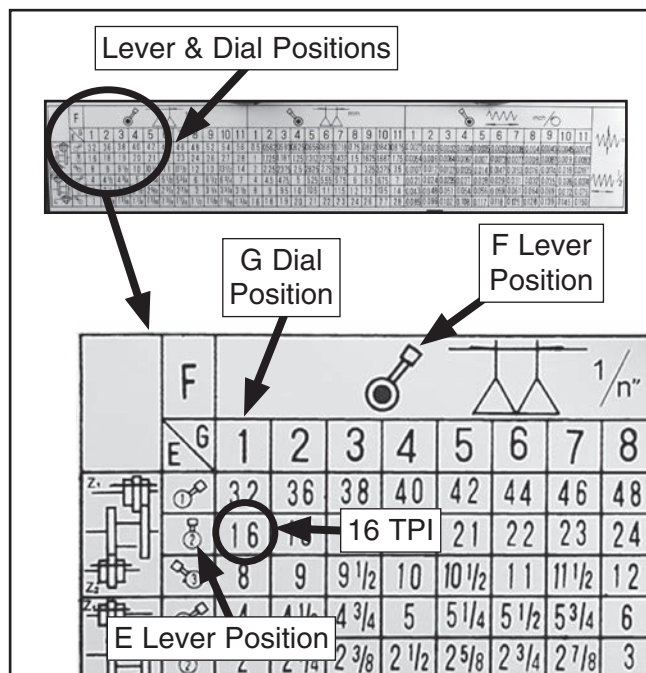

Figure 86. 16 TPI and corresponding lever and dial positions.
2. Locate **16 TPI** on the inch threading chart shown in **Figure 86**.
3. To the left of 16 TPI, locate the **E** lever in the **2** position. Above 16 TPI, locate the **F** lever position and the **G** dial position—which will be set to **1** (see **Figure 86**).